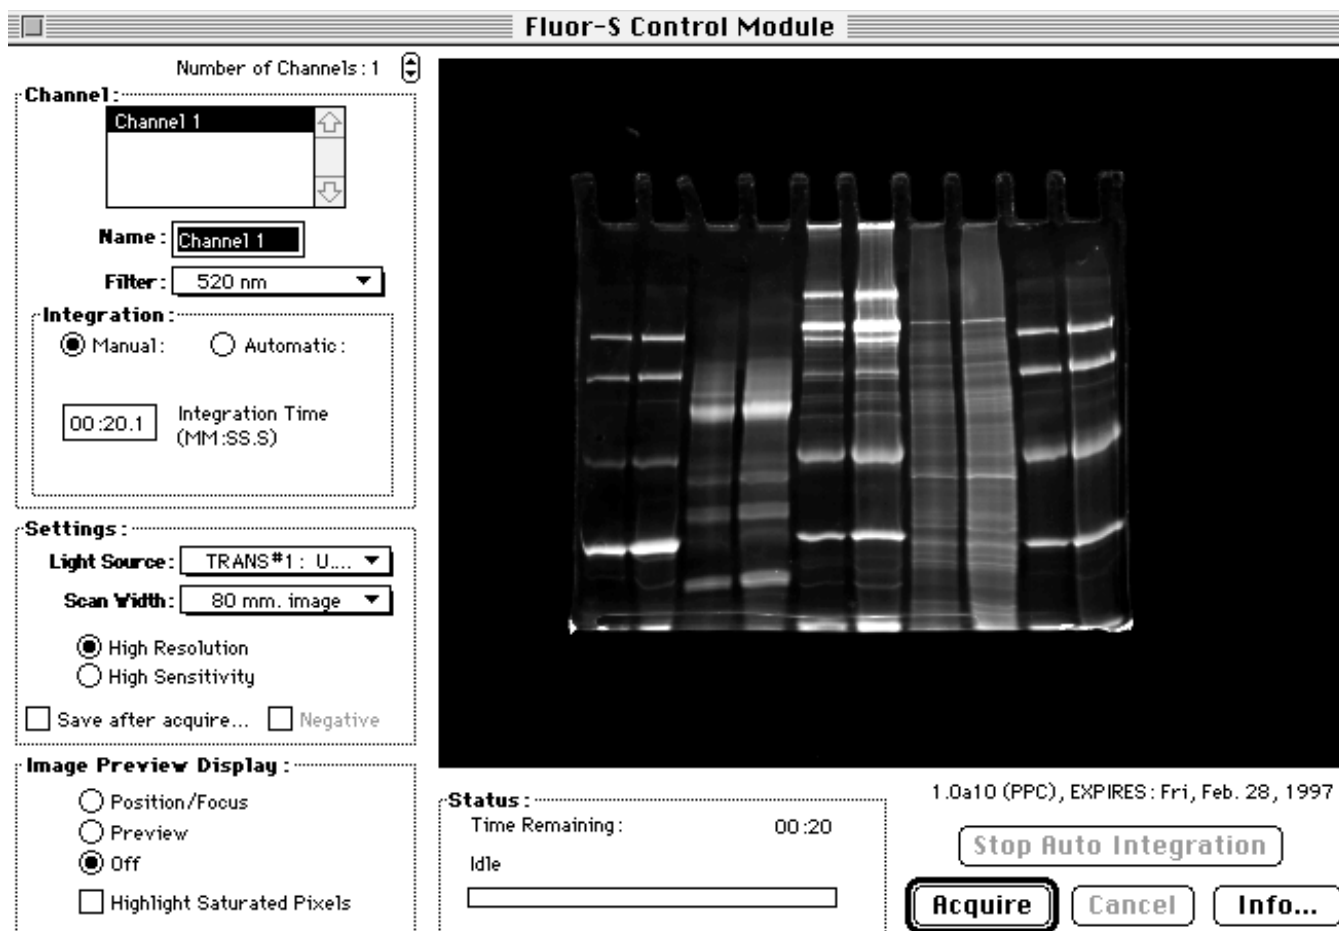

Fig. 4. Fluor-S control module window in Multi-Analyst Macintosh.
- Pull down the File menu, and **Acquire/Select** the Fluor-S MultiImager. The Fluor-S MultiImager Control Module window will be displayed, as shown in Figure 4 (Macintosh version).